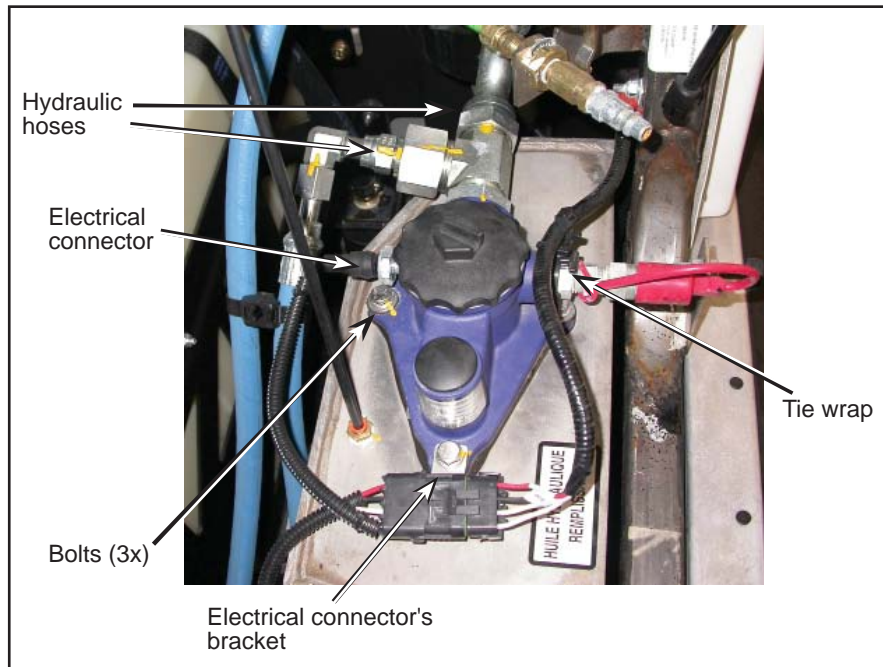

Figure 3 - Filter Housing Removal
- 1.4. Remove the two hydraulic hoses, the electrical connector and the tie wrap. See Figure 3.
- 1.5. Remove the three bolts and the electrical connector's bracket on the filter housing. Retain the hardware. See Figure 3.